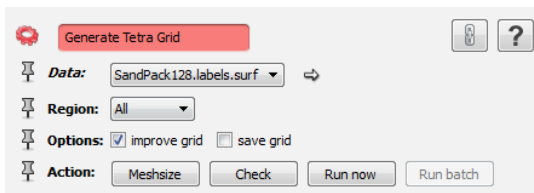

Figure 7.12: *Generate Tetra Grid* module.
- Connect a *Generate Tetra Grid* module to the surface (see Figure 7.12).